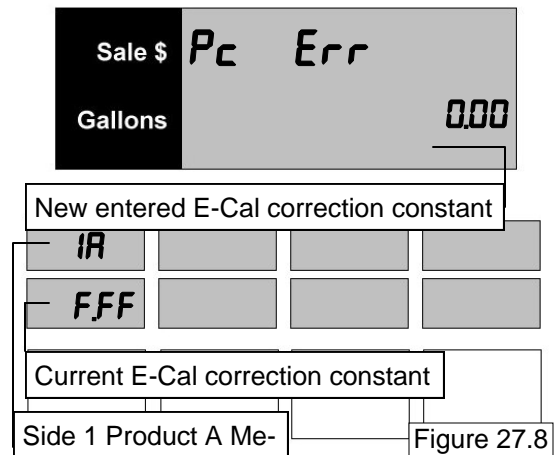

Figure 27.8
2. The main display now shows the test can size entry prompt. Press the \uparrow button to bypass the test can prompt and access the direct percentage entry menu. See figure 27.8